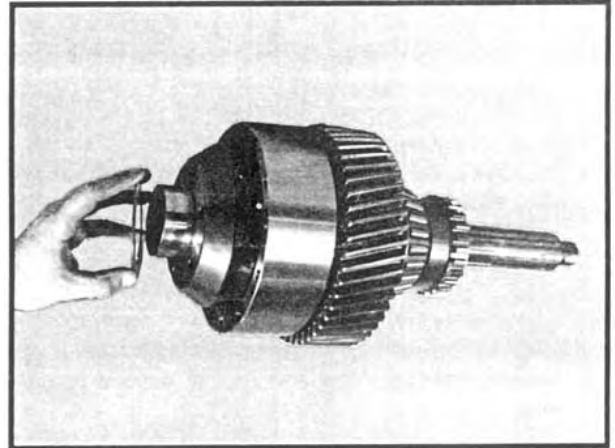

Fig 47
- Install the internal gear over the planet gears and place the thrust washer on the gear. See Figure 47.